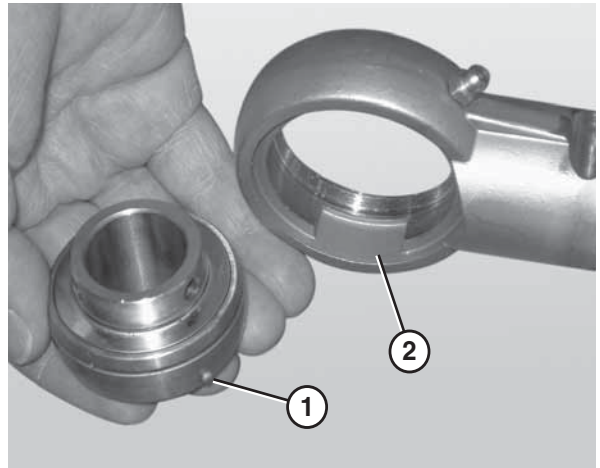

Figure 92
4. Remove the worn or damaged bearing (**Figure 92**).
*When inserting the new bearing, make sure the anti-rotation notch (**Figure 92, item 1**) on the bearing lines up with the groove inside the housing (**Figure 92, item 2**).*